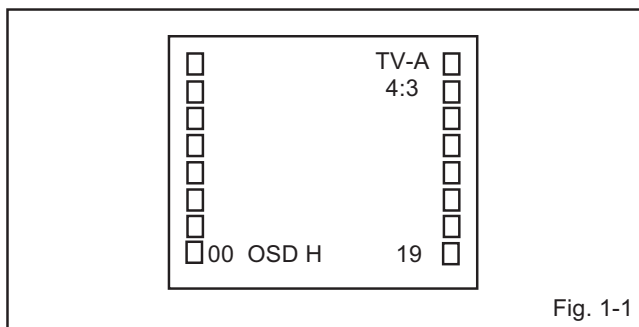

Fig. 1-1
2. Press the VOL. DOWN button on the set and the Channel button (9) on the remote control for more than 2 seconds to appear the adjustment mode on the screen as shown in Fig. 1-1.
5. Activate the adjustment mode display of Fig. 1-1 and press the channel button (02) on the remote control to select "CUT OFF".
4. Activate the adjustment mode display of Fig. 1-1 and press the channel button (11) on the remote control to select "R.BIAS".
1. Activate the adjustment mode display of **Fig. 1-1**.
3. Activate the adjustment mode display of **Fig. 1-1** and press the channel button (**03**) on the remote control to select "H.POSI".
3. Activate the adjustment mode display of **Fig. 1-1** and press the channel button (**43**) on the remote control to select "H.SIZE".
3. Activate the adjustment mode display of **Fig. 1-1** and press the channel button (**07**) on the remote control to select "V.POSI".
3. Activate the adjustment mode display of **Fig. 1-1** and press the channel button (**08**) on the remote control to select "V.LIN".
3. Activate the adjustment mode display of **Fig. 1-1** and press the channel button (**06**) on the remote control to select "V.SIZE".
3. Activate the adjustment mode display of **Fig. 1-1** and press the channel button **(44)** on the remote control to select "PARABOLA".
3. Activate the adjustment mode display of **Fig. 1-1** and press the channel button **(45)** on the remote control to select "TRAPEZIUM".